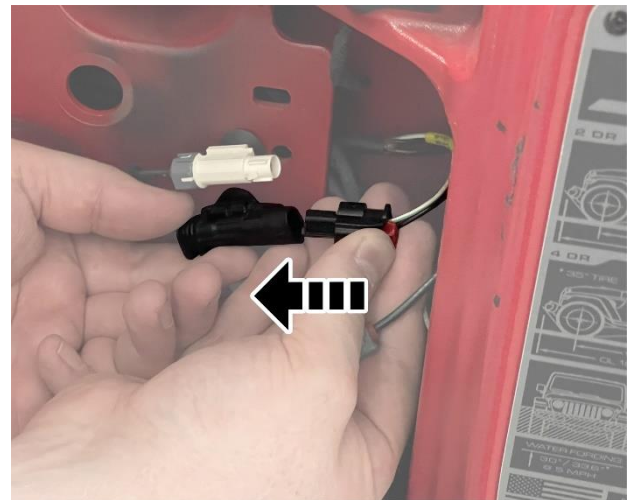

Figure 22 – Wiring Connection
- 40. Connect the electrical wires to the matting side (Figure 22).